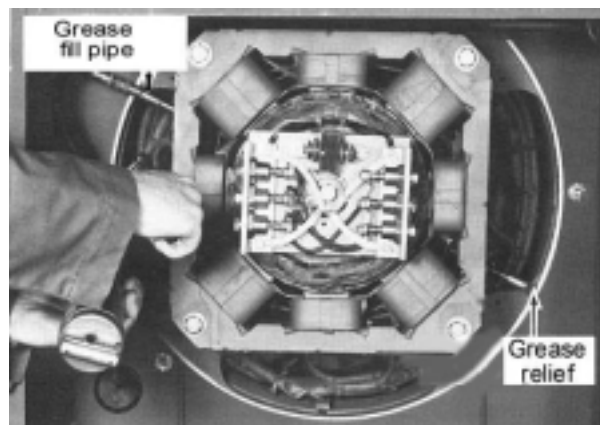

Figure 5-2
3. Remove both the fill and drain plugs. See figure 5-2